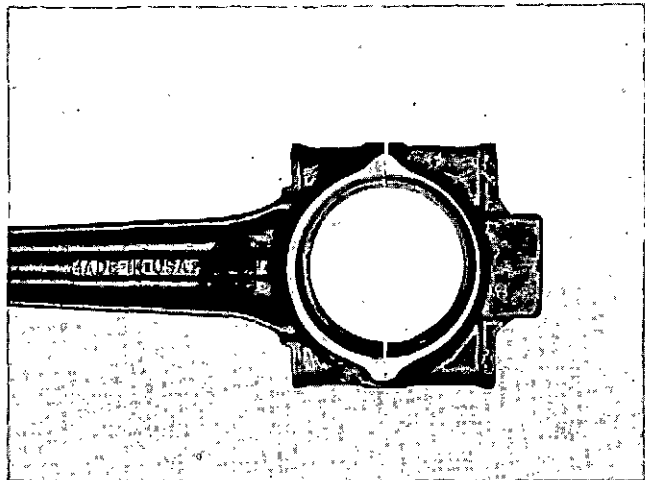

Fig. 1-8-6, N10189. Evidence of out-of-flat
b. Place mating rod and cap surfaces together and check closely for evidence of out of flat; see exaggerated example in Fig. 1-8-6.